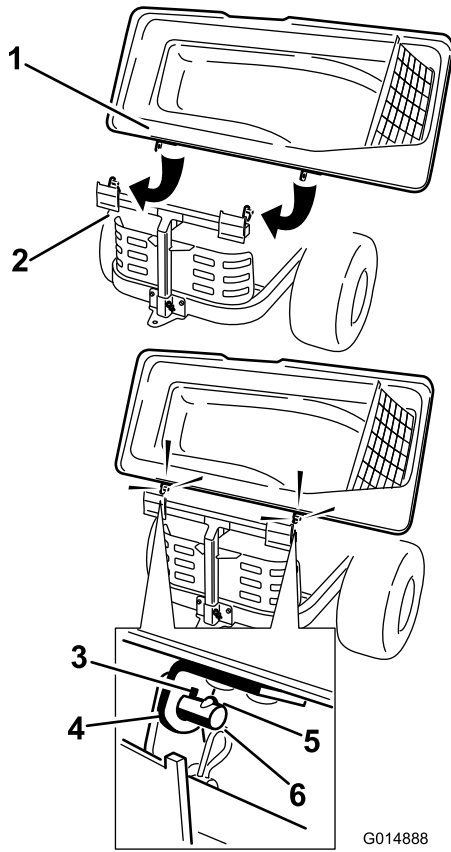

Figure 22
3. Rotate the bagger top to align the key holes in the bagger top brackets with the keys in the posts on the bagger frame (Figure 22).